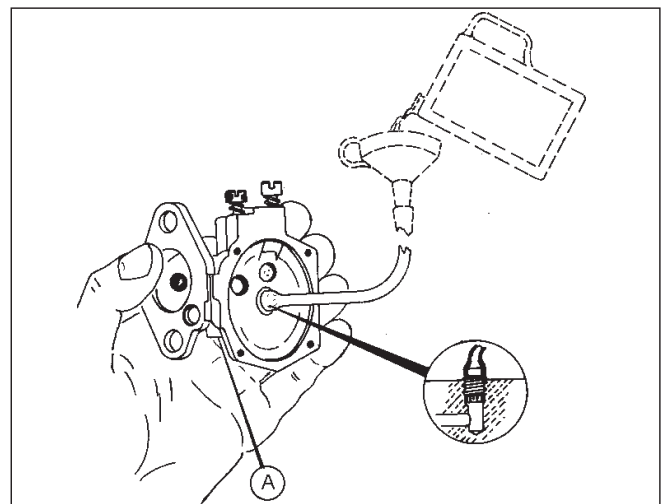

Fig. 11
- Refit the needle valve seat (Fig 11). Supply petrol by means of a plastic pipe and check that petrol does not escape from the valve (**A** of Fig 11), but readily flows past the valve when the inner disc is held off its seat.